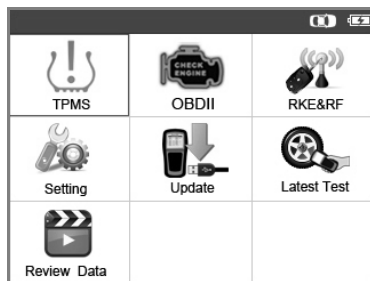

Figure 3.1
- 4) Power up the TPMS tool by pressing the **Power** button, and wait for the Main Menu to appear. (Figure 3.1)
- 1) Use the **UP/DOWN** scroll button and **LEFT/RIGHT** scroll button to select **TPMS** from **Main Menu** (Figure 3.1), and press the **Y** button to confirm.